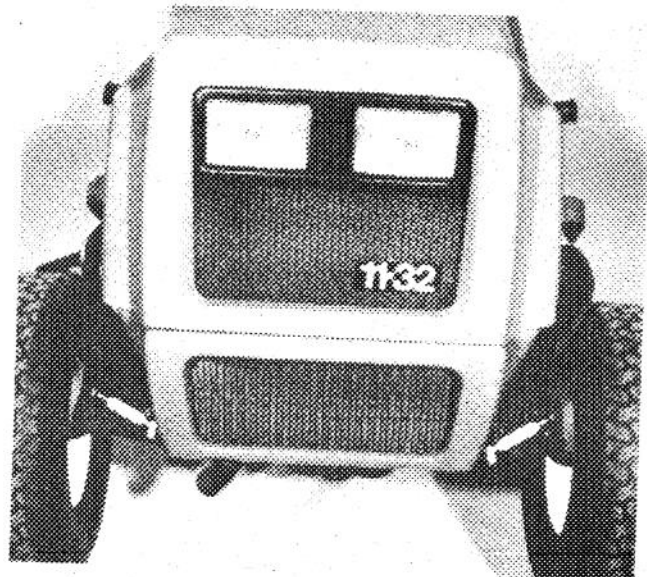

Figure 17
1. Wipe grease fittings on spindles and wheels (Fig. 17, 18) with a clean rag. If there is paint on front of fittings, scrape it off.
2. Lubricate both axle spindles w/No. 2 general purpose grease (Fig. 17). Continue to pump grease until it oozes out the spindle. Wipe up any excess grease.